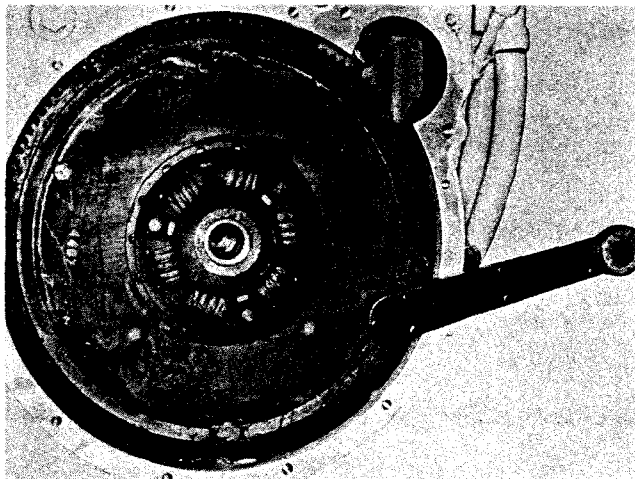

Fig. 5-12, (V11476). Torquing drive plate capscrews
3. Torque drive plate capscrew to 30 to 32 ft-lbs [4.15 to 4.43 kg m]. Fig. 5-12. Wipe housing mounting clean and check mounting face for nicks or burrs. Remove any irregularities on flywheel housing mounting face.